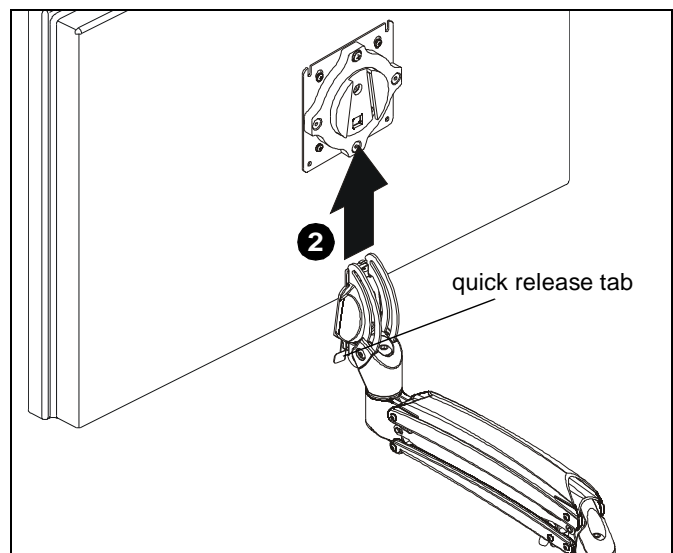

Figure 21
WARNING: Only remove display from mount when the display can be lifted up from the mount! DO NOT remove display unless the display is in the upright position! (See Figure 21)
2. Remove quick release faceplate from mount by pulling quick release lever and sliding faceplate off mount. (See Figure 21)